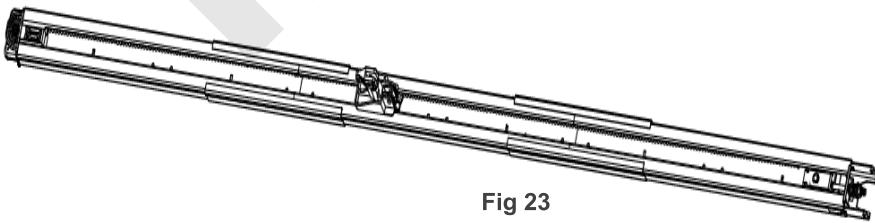

Fig 23
3. Three steel track and two sleeves (Fig.23).